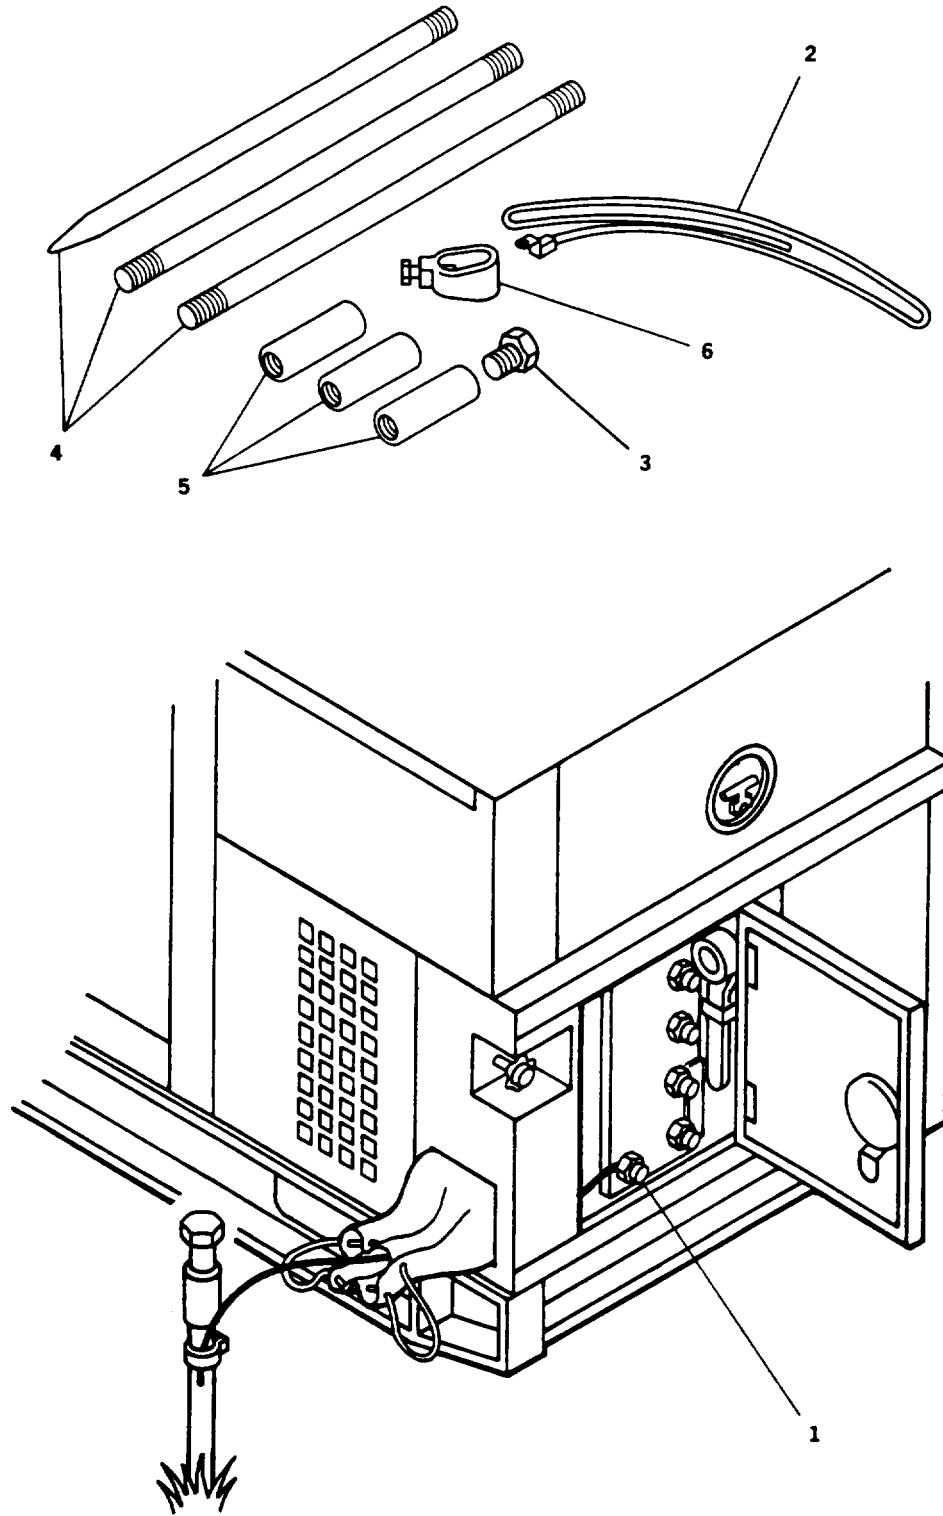

FIGURE 2-4. Grounding Connections
- a. Insert ground cable (2, FIGURE 2-4) through slot on load output terminal board terminal marked GND (1). Tighten terminal nut.
- b. Connect coupling (5) to ground rod (4) and screw driving stud (3) into coupling (5). Make sure that driving stud (3) seats on ground rod (4).
- e. Install another coupling (5) and driving stud (3). Drive ground rod down until new coupling is just above ground surface.
- g. Connect clamp (6) and ground cable (2) to ground rod (4) and tighten clamp screw.